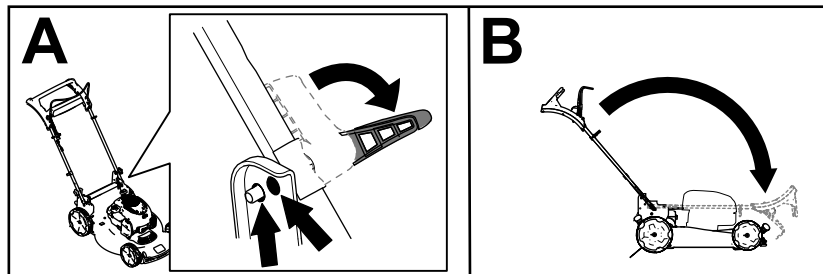

Figure 17
2. Disengage the handle locks until you can move the upper handle freely (A of Figure 17)
3. Fold the handle forward to the fully forward position (B of Figure 17).